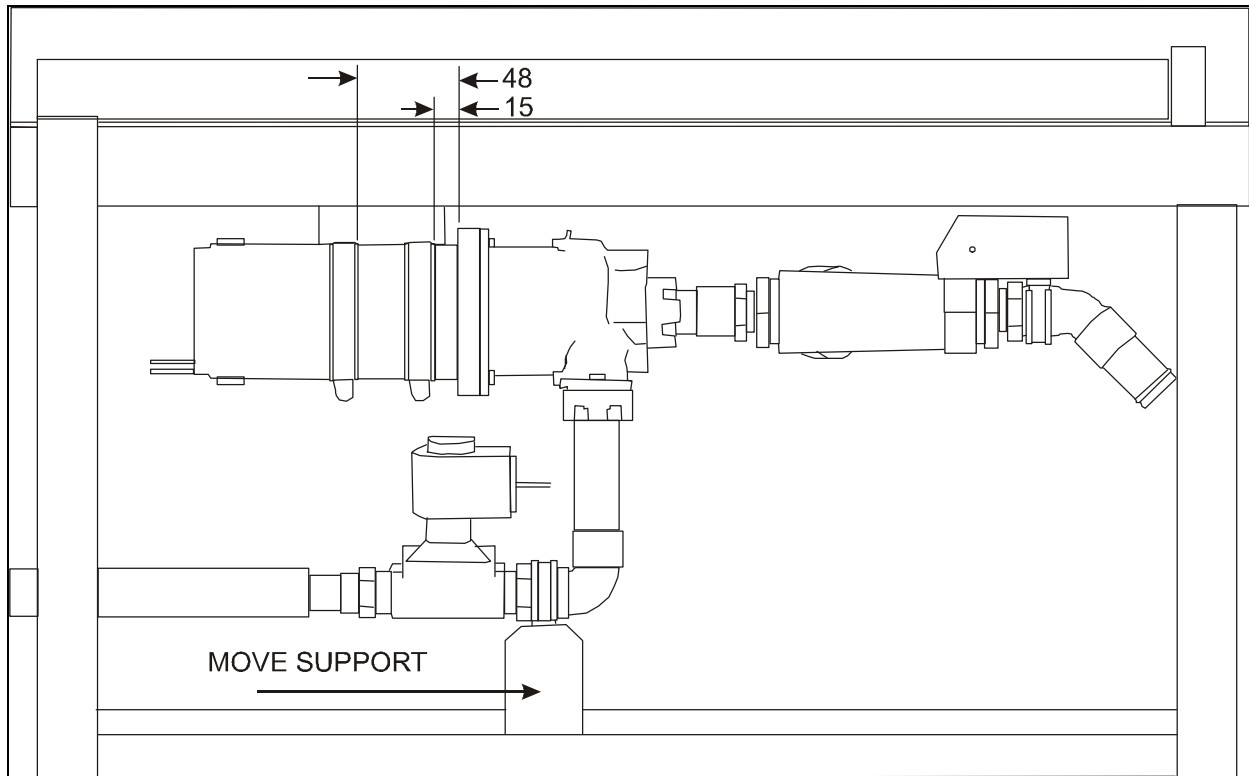

FIGURE 7
- Slightly move the solenoid valve support towards the rear of vehicle up to the last hole. Drill 2-9/64 inch holes using the support as a template (refer to figure 7).
- Cut the supplied rubber band (506728) in 2 parts of suitable length then position the pump rubber bands and retaining clamps (504235) (refer to figure 7).